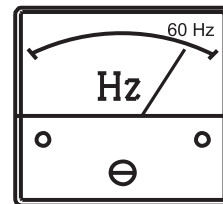

Figure 43. Frequency Meter
3. The generator's frequency meter (Figure 43) should be displaying the 60-cycle output frequency in **HERTZ**.